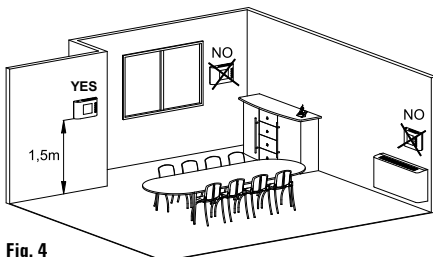

Fig. 4
- 4 Identify the correct positioning of the device (Fig. 4).